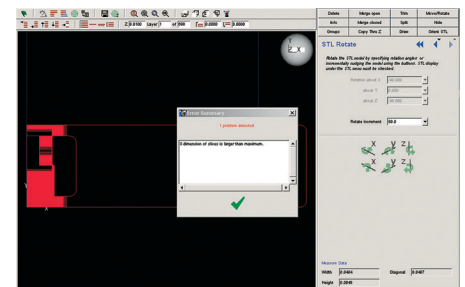

Figure 1: Draw in alignment bosses
STEP 4: Using the Draw function, draw in the Alignment feature(s). Go to Edit>Draw>Curve, Circle, or Box. For this demonstration we will draw in alignment bosses, both square and round, both male and female. Refer to figures 1 and 2.